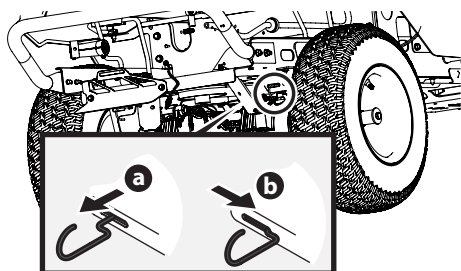
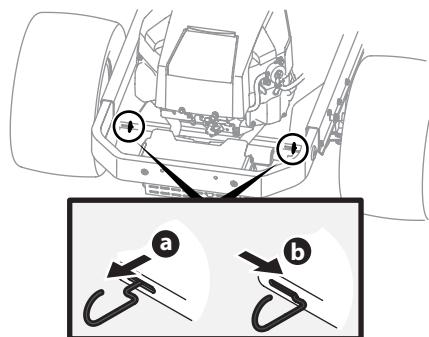

Figure 2-1
Figure 2-2
- Engage the transmission bypass rods, one on each side of the tractor, to move the tractor manually without starting it. The transmission bypass rods are located on the rear of the tractor, just inside each rear wheel. Engage the bypass rods by pulling each one out (a) and to the right (b) to lock it into place. See Figure 2-1 for 34" deck tractors, see Figure 2-2 for all other tractors.
- Disengage the bypass rods by reversing the steps after moving the tractor. See Figure 2-1 for 34" deck tractors and Figure 2-2 for all other tractors.